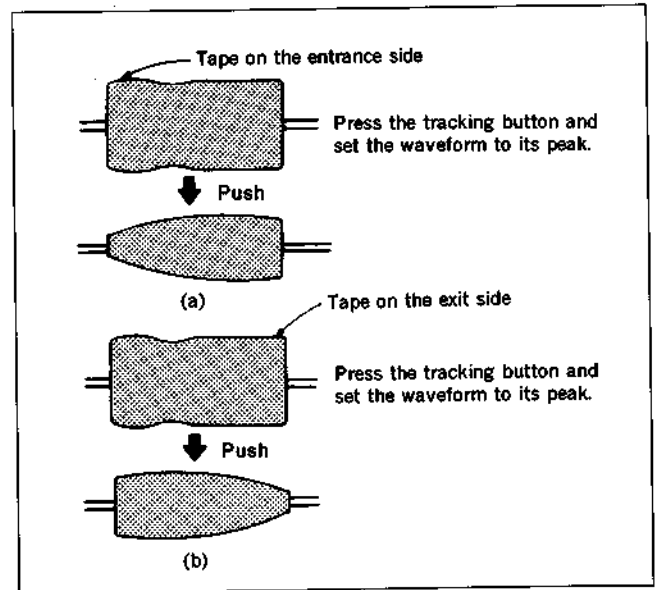

Fig. 7-33.
- 6) If the waveform on the entrance side cannot be made flat as shown in Fig. 7-33. (a) by pressing the tracking button, practice "Tracking adjustment on the entrance side" described in Paragraph 7-4-2.
If the waveform on the exit side cannot be made flat as shown in Fig. 7-33. (b) by pressing the tracking button, practice "Tracking adjustment on the exit side" described in Paragraph 7-4-3.